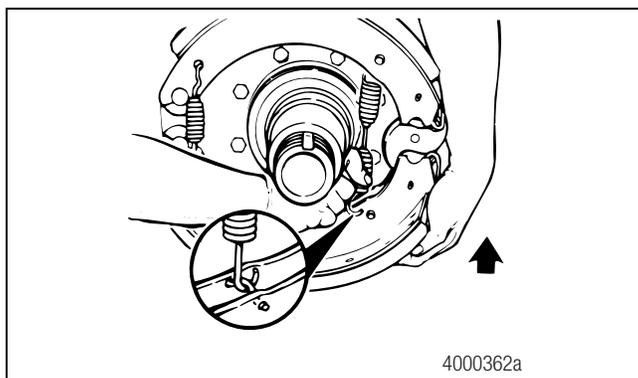

Figure 3.19
4. Rotate the lower brake shoe forward. Install a new brake shoe return spring with the open end of the spring hooks toward the camshaft. Figure 3.19.